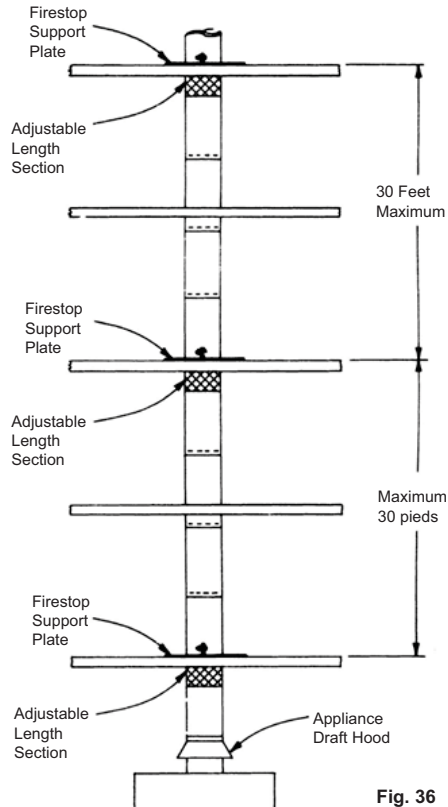

Fig. 36
4. Mounting holes are provided around the perimeter of the Firestop Support Plate. Use appropriate fasteners to secure the Support Plate halves to the opening between floors. (Firestop Support Plates should be attached to the TOP of the opening only). See Figure 36.
locations where a support is used (see Figure 36). This allows the location of the pipe recess to be in the proper position at each opening where a support is to be used. The Adjustable Length Section also provides relief for linear thermal expansion. The Adjustable Length Section should be positioned directly under the vent pipe section that is being supported.
Examples of this are shown in Figure 36. In these examples the fastening devices are not used. This allows for expansion between two fixed supports or between a fixed support and the appliance. Note that the fastening means should be left loose only if the Vent and the Adjustable Length Sections are installed vertically. If the Adjustable Length Sections are used in a position other than vertical, such as between offsets, the fastening means should be used. Finally, when joining an Adjustable Length Section to another section of Type B Gas Vent, make sure that there is a minimum overlap of two inches. **DO NOT USE Adjustable Lengths to suspend any weight of pipe below.**